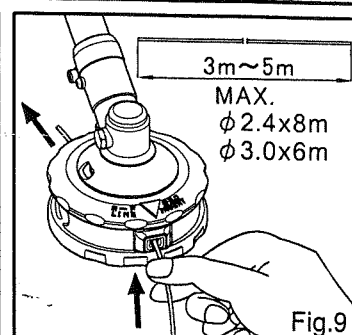

Fig. 9
2. Cut the nylon line to 3 to 5 meters. (Fig. 9)
Insert the line into the eyelet under ▼ mark. (Fig. 9)